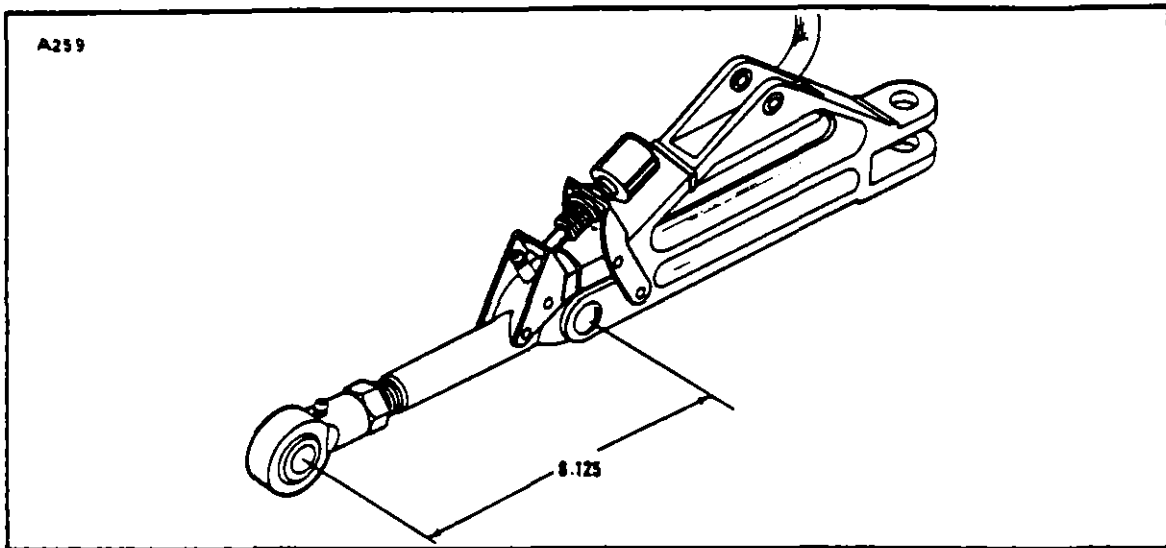

Figure 7-10. Adjustment of Main Landing Gear Drag Link
- a. Insert a gear support bearing (43 and 48) in each support fitting (11 and 18) and secure with snap rings (45).
1. Place a spacer washer (17), 0.035, P/N 19513-10, or original number of washers and then the forward support fitting (18) on the forward support arm of the strut housing.
2. Slide the barrel nut (47) into the forward strut arm and insert the attaching bolt (49) with washer through the fitting into the arm.
4. Secure the aft support fitting (11) to the rear spar web with attaching bolts, washers and nuts.
6. Using the access hole behind the rear spar, insert the bungee tube (10) with washer (44) (0.125, P/N 14943-20) through the rear support fitting and into the rear strut arm using enough shim washers (12) between the rear support fitting and the strut arm to diminish end play of the strut housing. (Shim washers are available in sizes 0.035, P/N 19513-10; 0.062, P/N 14843-93; and 0.125, P/N 14843-20.)
7. Position the side brace support bracket (22) on the main spar web and secure with bolts and washers.
- c. Assemble the upper and lower drag links (24 and 27) with pivot bolt (26).
- d. Adjust the lower drag link to a dimension of 6.125 inches from center of the middle pivot bolt to center of the rod end bearing. (Refer to Figure 7-10.)
- g. Check for clearance between drag link middle pivot bolt head (26) and the main gear capstrip, and binding of the lower drag link and bearing by retracting and extending the gear by hand. If clearance is less than 0.062 of an inch between pivot bolt head and spar capstrip, additional shims (17) must be added between the strut arm and front support bracket.
- h. Install studs (14) in rear strut arm and safety with minimum 0.041 (Spec. MS20995C41) wire (13).
- i. Install barrel nut (46) in rear strut arm and insert bolt (9) with washer through
7-25. ADJUSTMENT OF MAIN GEAR SIDE BRACE LINKS. (Refer to Figure 7-10.) Disconnect the side brace link from the main gear strut housing, and adjust to maintain a distance of 6.125 inches between the center of the pivot bolt which attaches the upper drag link to the lower drag link and the center of the rod end bearing.